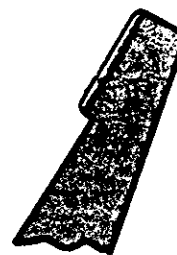
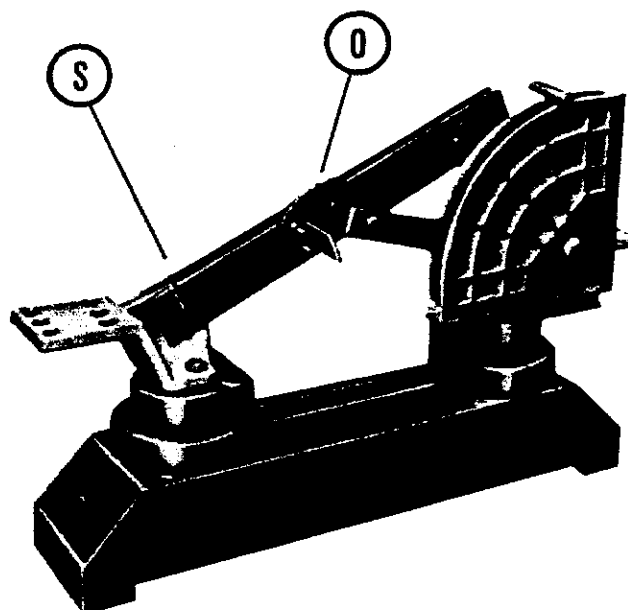
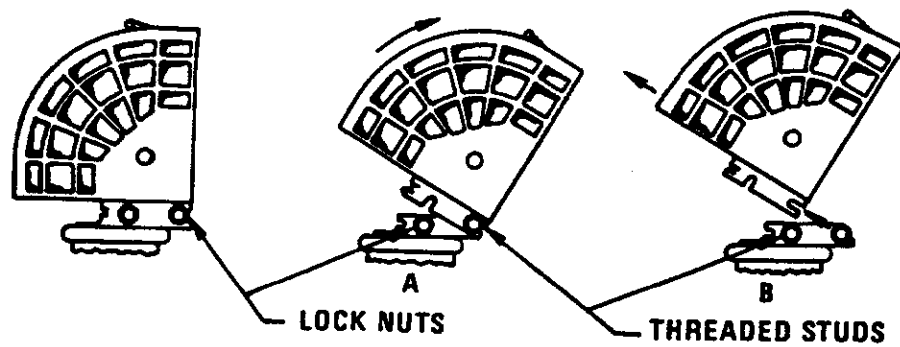
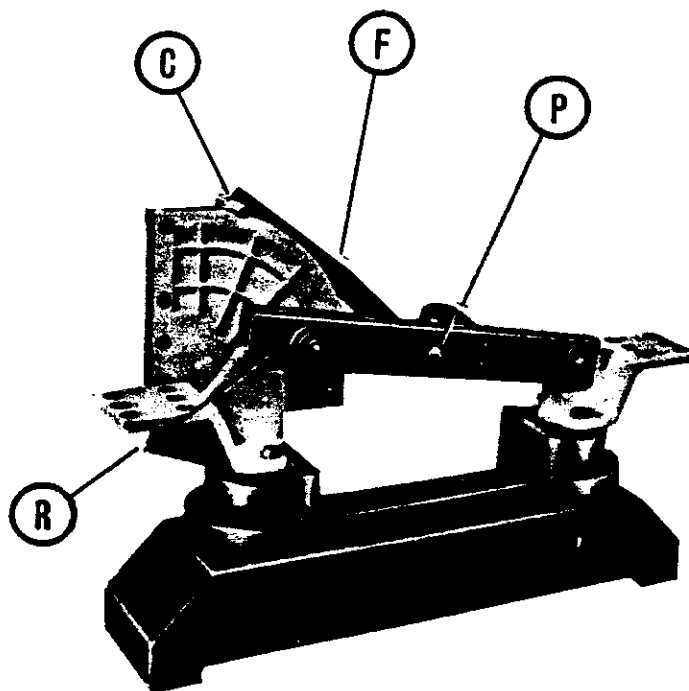

Fig. 27 End of auxiliary quick-break blade showing erosion at acing tip.
Fig. 28
Fig. 29 Progressive steps in arc-chute removal
Fig. 30
This inspection can best be performed with the switch in the open position and noting the condition of the quick-break blade (F), Fig. 30.
If the quick-break blade shows bad erosion, Fig. 27, the arc chute and quick-break blade should be replaced. To replace arc chute, loosen locknuts holding arc chute to support, (Fig. 29), pull arc chute away from switch base, rotating away from hinge and remove. Discard and replace with new unit. To replace quick-break blade, remove bolt (P) (Fig. 30).
Operate switch to check on opening. To do this, disconnect the plastic drive link from the blade on 5 kV and at back drive shaft on 15 kV. On opening, the quick-break blade should not release until its hinge end makes contact with latch hook (O) (Fig. 28). On closing, the quick-break blade should not leave Flipper (C) (Fig. 30) until the jaw and blade have made contact at (R).
Should it ever be necessary to adjust the hinge contact pressure, open switch, then tighten pressure adjusting nut (S), Fig. 28 one-half turn at a time. Move blade back and forth 90° to centerline of base to observe its contact with the hinge. The blade should be moderately snug against both sides of hinge at all times. Use thin shim to check for blade contact. No adjustment is required on jaw contact.